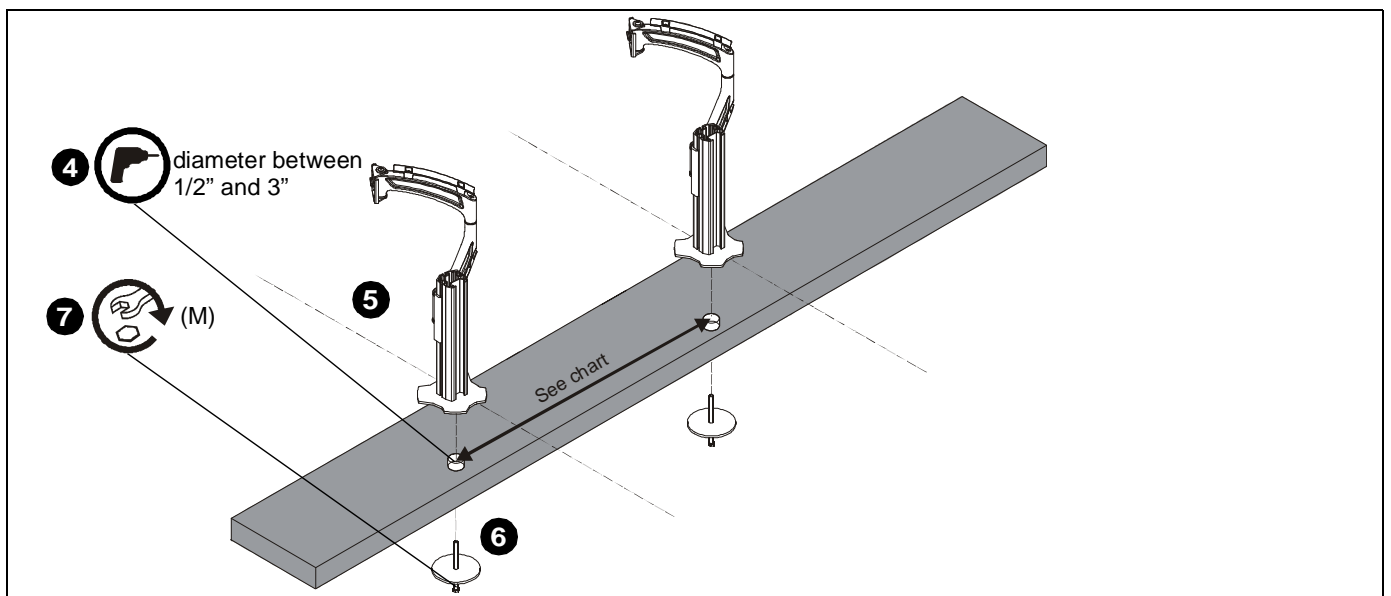

Figure 2
**IMPORTANT ! :** Mounts must be installed parallel to each other on the desk. (See Figure 2)
4. If a hole doesn't already exist, drill a hole in desk with a diameter between 1/2" and 3" at desired mounting location. (See Figure 2)
5. Position mount on desk so that center hole of grommet plate (N) is centered over grommet hole. (See Figure 2)
6. Insert grommet screw (M) through grommet hole and thread into center hole of grommet plate (N). (See Figure 2)
7. Tighten grommet screw (M) until grommet base is tightened against underside of desk and mount is securely mounted to desk. (See Figure 2)